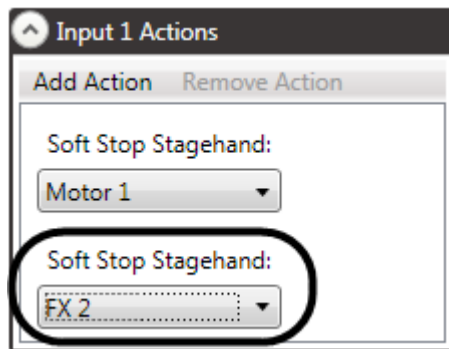

Figure 192
5. Repeat as necessary if you would like a single FX Input to deactivate multiple Stagehands—Motors *or* FXs (Figure 192).